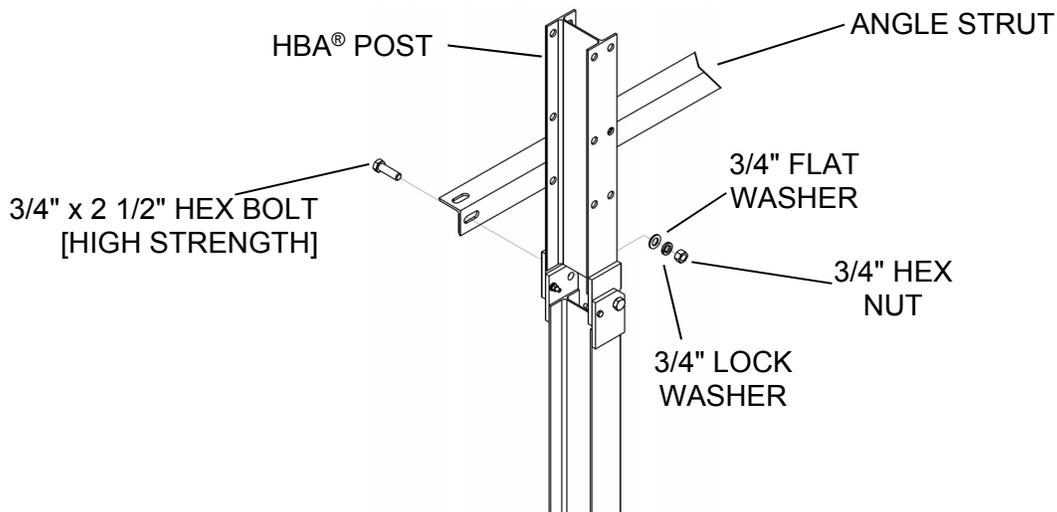

Figure 10 - Angle Strut Assembly
- 3.1 Attach the Angle Strut to the HBA® Post using (1) 3/4" x 2 1/2" hex bolt [High Strength], (1) 3/4" flat washer, (1) 3/4" lock washer and (1) 3/4" hex nut. The flat washer and lock washers are placed under the hex nut as shown in Figure 10.